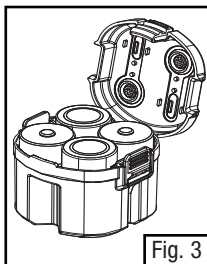

Fig. 3
3. Install 4 batteries in the correct orientation as shown on the battery housing. Always be careful that all 4 batteries are installed correctly. (Fig. 3)